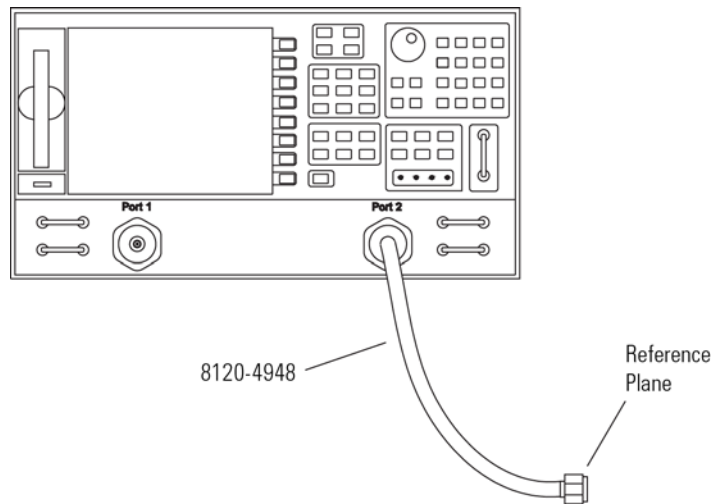

Figure 17 SMA Cable Connected to Port 2
- 13 Connect the other high quality SMA cable to the VNA's **PORT 2** as shown in Figure 17.